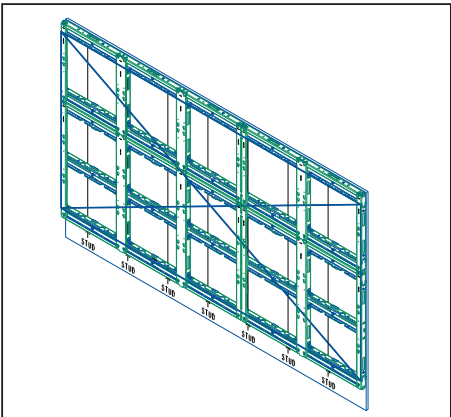

Figure 14: Secure String Line
2. Use the frame alignment tabs closest to the display corners and secure a string line in an X pattern. Refer to **Figure 14**.